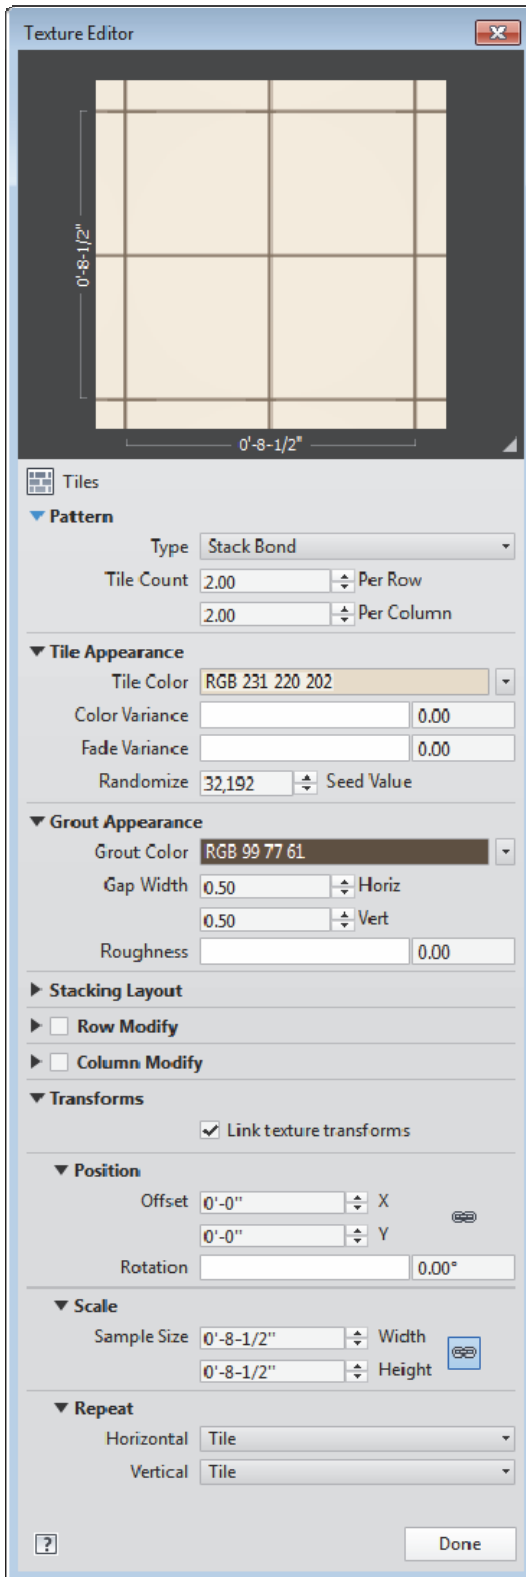

FIGURE 4-4.5 Texture editor
You are now in the *Texture Editor* shown in Figure 4-4.5. Here you can adjust all sorts of settings related to how the tile pattern should appear. One of the adjustments one can make is the tile pattern. Is the pattern stack bond, running bond, common flemish bond, etc. You can even adjust the grout color and size.
22. Make the adjustments shown in Figure 4-4.5.